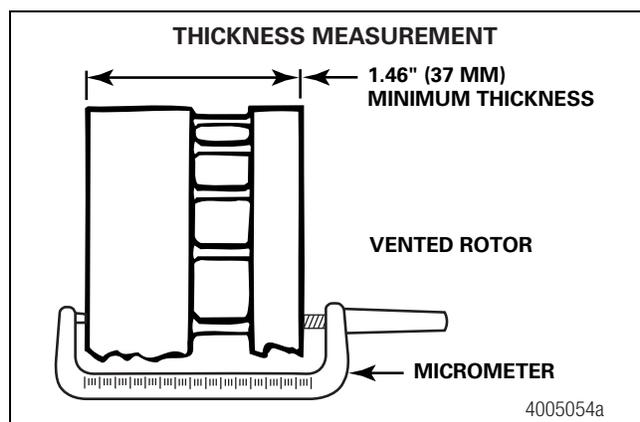

Figure 6.7
1. Use a micrometer to measure the rotor thickness. If you are replacing the brake pads, the rotor should be replaced if the rotor thickness is less than 1.54-inches (39 mm). Figure 6.7.